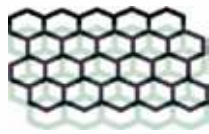

Fig 2: graphite
eycomb platelets as in figure 2.
- **Graphitization:** if, in the final stage, the temperature is raised from 2 500°C to 3 000°C, the carbon forms into similar platelets as in figure 2. This process is called graphitization. However, the platelets are not superimposed as in graphite, but overlap each other along a line parallel to the length of the fibre. The orientation and overlap of the platelets result in high strength combined with stiffness.